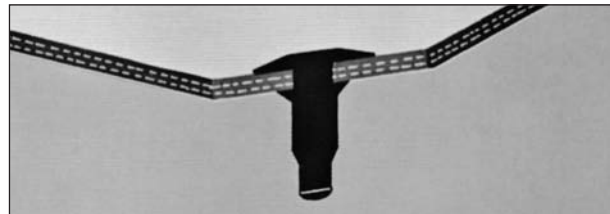

Figure 2
**Special Collar and Base** design helps seal belt carcass from moisture damage especially when installed using adhesive. (Figure 2)